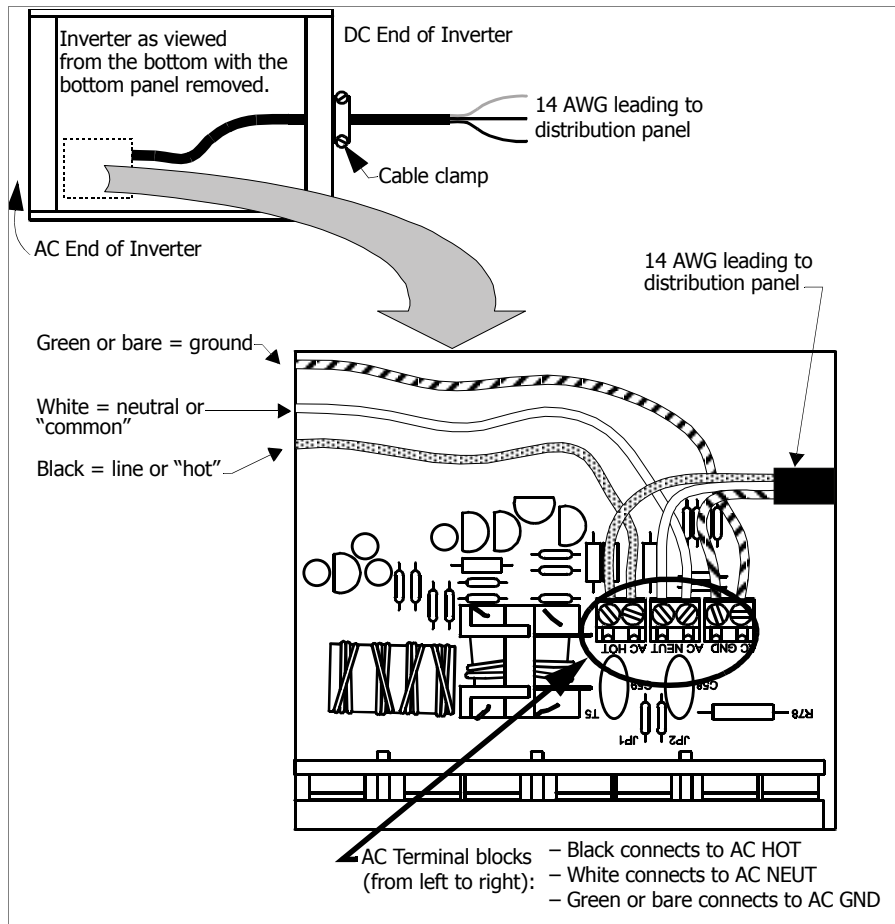

Figure 3-1 Bottom View of Inverter Showing AC Terminal Blocks
2. Remove the bottom plate from the inverter. This gives you access to the AC terminal blocks. See Figure 3-1.
7. Strip 1/4 inch (6 mm) of insulation from the line (black) and neutral (white) leads, and connect them to the AC output terminal blocks on the PROwatt 1000 circuit board. These terminal blocks are labeled **AC HOT** and **AC NEUT** respectively as shown in Figure 3-1.